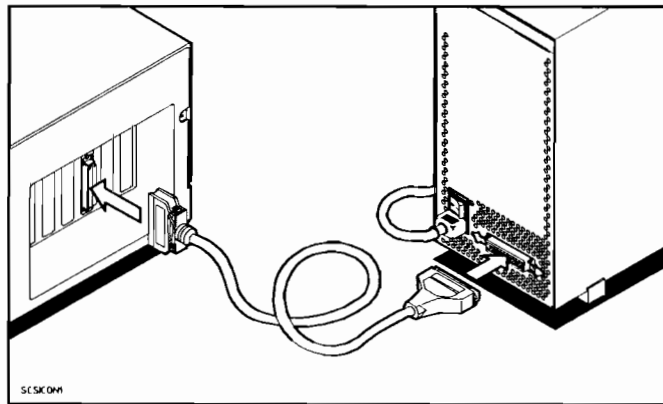

Figure 1-3. Connecting One SCSI Cable
2. Connect the small SCSI cable connector to the host then connect the large SCSI cable connector to the lower SCSI connector on the rear of the mass storage system (see Figure 1-3). Push the SCSI connector retaining clips into place.